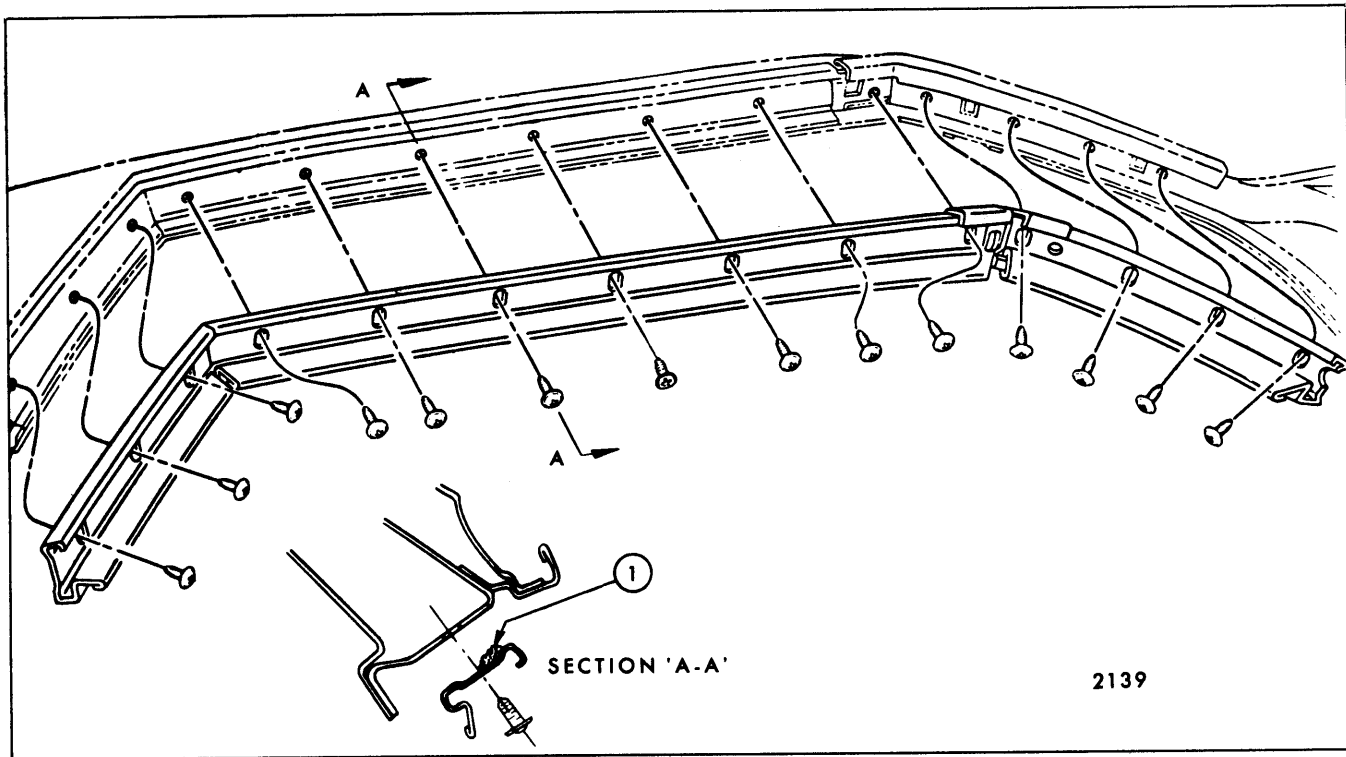

Fig. 6-12—Typical Side Roof Rail Weatherstrip Retainer
3. With weatherstrip removed, screws securing weatherstrip retainer to side roof rail are exposed. Remove screws to remove retainer (Fig. 6-12).
that mates with side roof rail ("1", Fig. 6-12). Apply bead outboard of attaching screw holes.